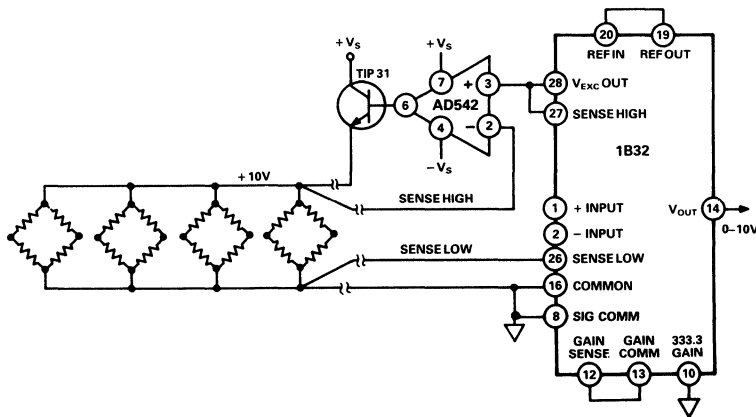

Figure 16. Multiple Load-Cell Application
**Multiple Load-Cells:** For transducer configurations where the maximum load current of the 1B32 is not sufficient, a buffer and a power transistor such as a TIP31 can be used as shown in Figure 16. This approach will supply 300mA at +10V excitation over -25°C to +85°C temperature range. In a multiple 1B32 system an added advantage is that ratiometric operation can be preserved by using the excitation voltage as the reference for the system A/D converter.